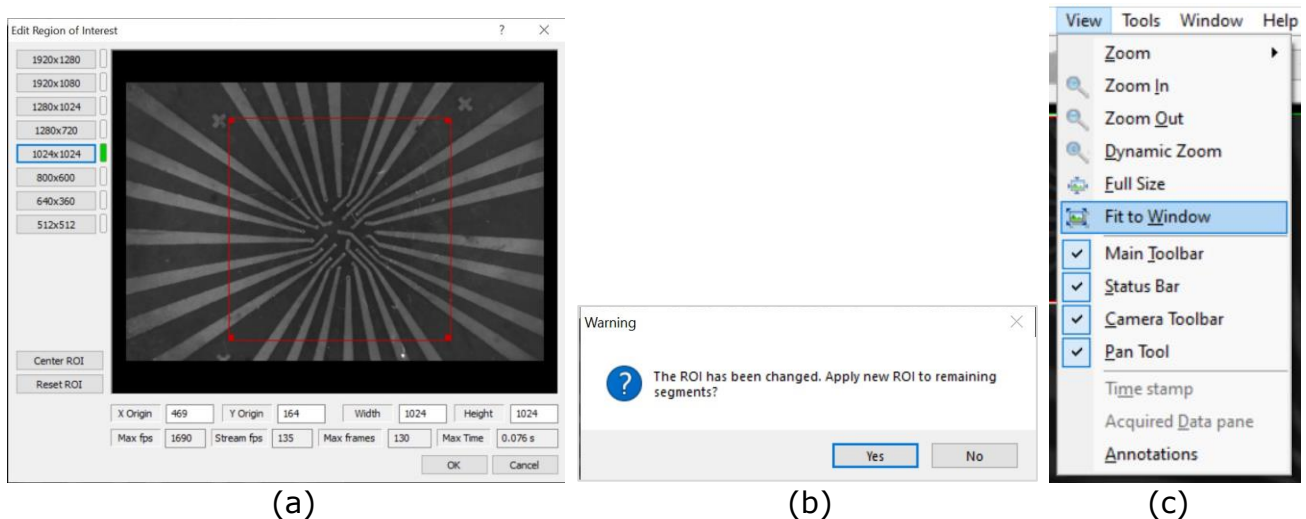

Fig. 73: (a) "Edit Region of Interest" window where the ROI can be updated. (b) "Warning" window after updating the ROI. (c) "Fit to Window" in top menu bar.
- Decrease the **region of interest (ROI)** to 1024 pixels × 1024 pixels (**Fig. 73**). A smaller ROI 'trims off' areas of the image, reducing the size of each frame and allowing larger attainable frame rates.